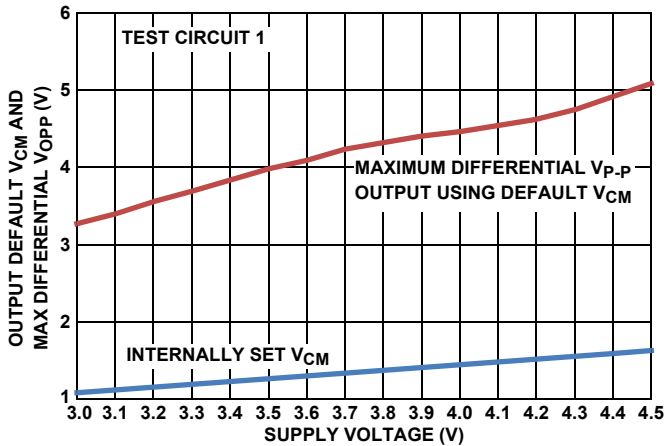
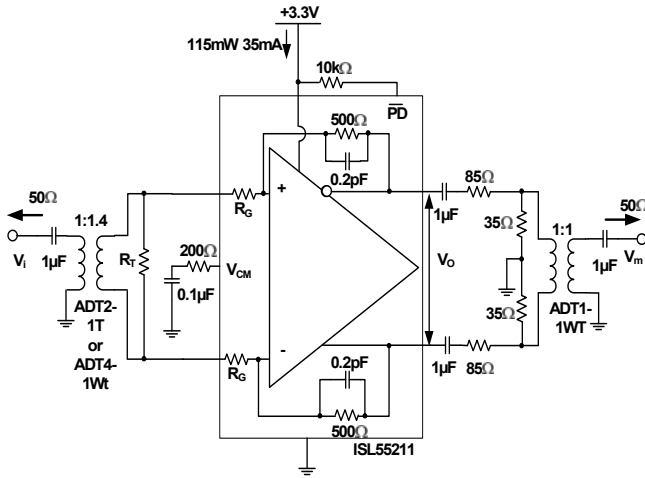
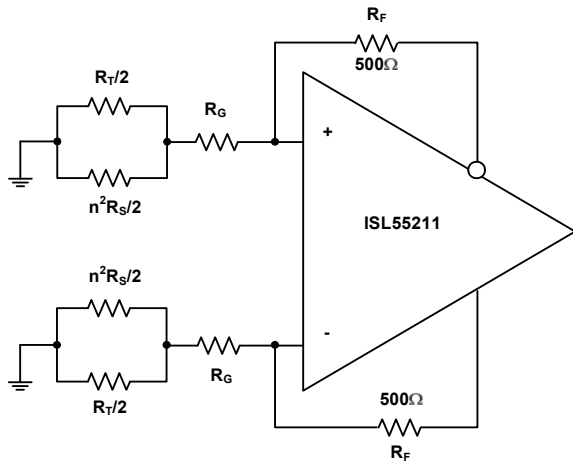
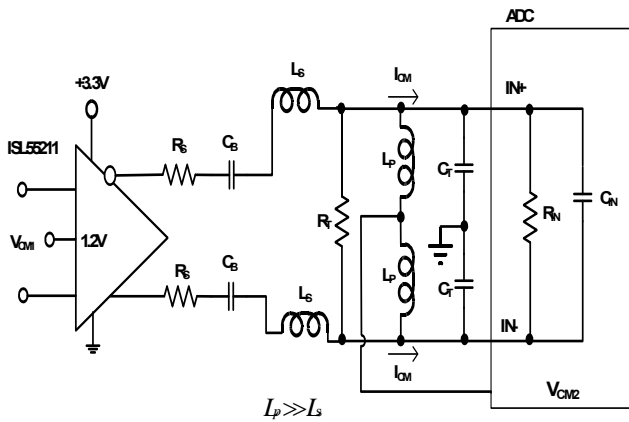

FIGURE 27. DEFAULT V_{CM} AND MAX V_{OPP} vs SUPPLY VOLTAGE
FIGURE 29. TEST CIRCUIT 1
FIGURE 35. NOISE GAIN MODEL FOR THE TRANSFORMER COUPLED INPUT CIRCUIT OF FIGURE 29
FIGURE 37. AC-COUPLED, HIGHER FREQUENCY RLC INTERSTAGE FILTER DESIGN
Test Circuit 1 of Figure 29 forms a starting point for many of the characterization curves for the ISL55211. Since most lab sources and measurement devices are single-ended, this circuit converts to differential at the input through a wideband transformer and would also be a typical application circuit coming from a single-ended source. Assuming the source is a 50 Ω impedance, the internal R_G resistors and external R_T are set to provide both the input termination and the gain. Since the inverting summing nodes act as virtual ground points for AC signal analysis, the total termination impedance across the input transformer secondary will be $(2 * R_G) || R_T$. Setting this equal to $n^2 * R_S$ will give a matched input impedance inside the bandwidth of the transformer (where "n" is the turns ratio). The amplifier gain is fixed by the selected input R_G element and the internal 500 Ω feedback resistors. While the ISL55211 is internally a Voltage Feedback Design (VFA) to give the lowest possible noise, internal compensation caps hold the bandwidth over gain setting approximately constant at 1.4GHz. For wider small signal bandwidth at lower gains, consider the ISL55210, which provides >2.2GHz at a gain of 12dB.
Working with a transformer coupled input as shown in Figure 29, or with two DC blocking caps from a differential source, means the output common mode voltage set by either the default internal V_{CM} setting, or a voltage applied to the V_{CM} control pin, will also appear as the input common mode voltage. This provides a very easy way to control the ISL55211 I/O common mode operating voltages for an AC-coupled signal path. The internal common mode loop holds the output pins to V_{CM} and, since there is no DC path for an I_{CM} current back towards the input in Figure 29, that V_{CM} setting will also appear as the input common mode voltage. It is useful, for this reason, to leave any input transformer secondary centertap unconnected. The internally set V_{CM} voltage is referenced from the negative supply pin. With a single 3.3V supply, it is very close to 1.2V but will change with total supply voltage across the device as shown in Figure 27.
Most of the characterization curves starting with Figure 29 then get different gains by changing the connections to the two pairs of input R_G connections, as shown on the pin configuration drawing on page 2. Two input turns ratios are intended for Test Circuit 1; either a 1:1.4 turns ratio (ohms ratio of 2) or a 1:2 turns ratio (ohm ratio of 4). The specific transformers shown in Figure 29 are representative of broadband RF transformers but alternate devices and manufacturers of these turns ratio devices are certainly applicable. The output side of this test circuit presents a differential 200Ω load while converting the differential to single-ended through a resistive attenuator and a 1:1 transformer. This inserts approximately a 17dB insertion loss that is removed to report the characteristic curves. For load tests below the 200Ω shown in Figure 29, a simple added shunt resistor is placed across the output pins. For loads > 200Ω, the series and shunt load R's are adjusted to show that total load (including the 50Ω measurement load reflected through the 1:1 output measurement port transformer) and provide an apparent 50Ω differential source to that transformer. This output side transformer is for measurement purposes only and is not necessary for final applications circuits. There are output interface designs that do benefit from a transformer as part of the signal path as shown in Figure 1. In that case, the 1:1.4 output side transformer becomes part of a filter design and recovers the filter insertion loss from the amplifier output pins to the ADC inputs.
The characterization circuit of Figure 29 shows one possible input stage interface that offers several advantages. Where AC coupling is adequate, the circuit of Figure 29 simplifies the input common mode voltage control. If the source coming into this stage is single-ended, the input transformer provides a zero power conversion to differential. The two gain resistors (R_G in Figure 29) provide both a portion of the input termination impedance and the gain element for the amplifier. For 50Ω systems, these R_G resistors are too high with the turns ratios shown in Figure 29 to provide the full match and an external R_T resistor is required. This R_T element goes away at the highest gain setting using a 1:2 input turns ratio transformer.
This input interface also simplifies the input common mode control. The V_{CM} pin controls the output common mode voltage. In most DC-coupled FDA applications, the input common mode voltage is determined by both this output common mode and the source signal. In a configuration like Figure 29, there is no path for a common mode current to flow from output to input, so the input common mode voltage equals the output. A similar effect could be achieved with just two blocking caps on the two R_G resistors. A DC-coupled, single to differential, configuration will also have a common mode input that is moving with the input signal. Converting to just a differential signal at the amplifier, as in Figure 29, removes any input signal related artifacts from the input common mode making the ISL55211 behave as a differential only VFA amplifier. There is only a very small differential error signal at the inputs set by the loop gain, as in a
of 1.3V for instance, then $1.3V + 0.9V + 1.5V = 3.7V$ will give an unclipped 3.6V_{P,P} output capability. The $V_{P,P}$ reported in Figure 27 is an asymmetrically clipped maximum swing. Going 10% above this 3.7V target to 4.1V will be within the recommended operating range and give some tolerancing headroom that would also suggest the V_{CM} voltage be moved up to approximately 1.5V, which coincides with the default output V_{CM} from Figure 27. Operating at +4.1V single supply in a Figure 29 type configuration will give the maximum linear differential output swing of 3.6V_{P,P}.
The differential inputs internal to the ISL55211 also have operating range limits relative to the supply voltages. Operating in an AC-coupled circuit like Figure 29 will produce an input common mode voltage equal to the outputs. The inputs can operate with full linearity with this V_{CM} voltage down to 1.1V above the $-V_S$ supply. On the default 1.2V output V_{CM} on +3.3V supplies this gives a 100mV guardband on the input V_{CM} voltages. Overriding the default V_{CM} by applying a control voltage to the V_{CM} pin should be done with care in going towards the negative supply due to this limit. On the + side, the maximum input V_{CM} above the $-V_S$ supply is 2V so there is more room to move the output V_{CM} up than down from the default value.
+85°C maximum operating ambient from Figure 27, we get $4.5V \times 45mA \times 120^\circ C/W = +24^\circ C$ rise above +85°C or approximately +109°C operating T_j maximum - still well below the specified Absolute Maximum operating junction temperature of +135°C.
Adding an input transformer can improve the input referred noise by adding a noiseless voltage gain. Starting from Test Circuit 1 of Figure 29, and assuming the source shows a matched broadband source R_S that will be matched by the input referred parallel combination of $2 * R_G || R_T$, a noise gain analysis circuit can be developed as shown in Figure 35.
Stepping through the 3 gain settings with two input transformers will allow the noise gain to be calculated for the circuit of Figure 35, which is all that is needed in Equation 1 to arrive at an output differential noise (since R_F is fixed at 500Ω). Doing this gives Table 4.
2. AC-coupled, higher frequency range interstage filter design. This design replaces the R_T resistors in Figure 35 with large valued inductors and implements the filter just using shunt resistors at the end of the RLC filter. In this case, the ADC V_{CM} can be tied to the centerpoint of the bias path inductors (very much like a Bias-T) to provide the common mode voltage and current to the ADC inputs. These bias inductors do limit the low frequency end of the operation where, with $1\mu\text{H}$ values, operation from 10MHz to 200MHz is supported using the approach of Figure 37.